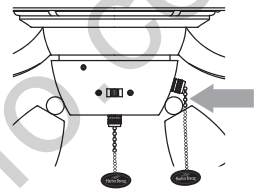

Fig. 1
1. The fan pull chain, labeled SPEED, has four positions to control fan speed. One pull is HIGH, two is MEDIUM, three is LOW and four turns the fan OFF. [Fig. 1]